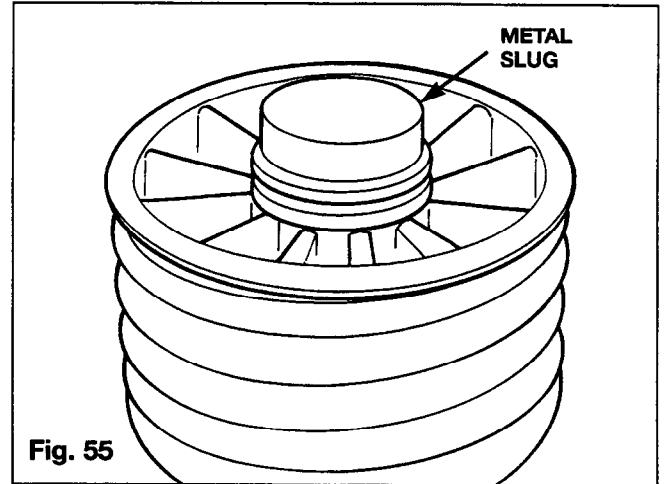

Fig. 55
- 4. Installing New Thrust Bearing** - To install the thrust bearing, place the ground I.D. side of the bearing race against the reel, place the retainer through the thrust bearing and press it into the reel. After the retainer is pressed, check the outer bearing race to be sure it rotates freely. The thrust bearing retainer should be .008" to .012" below the surface of the outer bearing race. Refer to Figure 55.
4. Stand assembly on ball screw and drop in approximately half of the ball bearings. Refer to Figure 55.